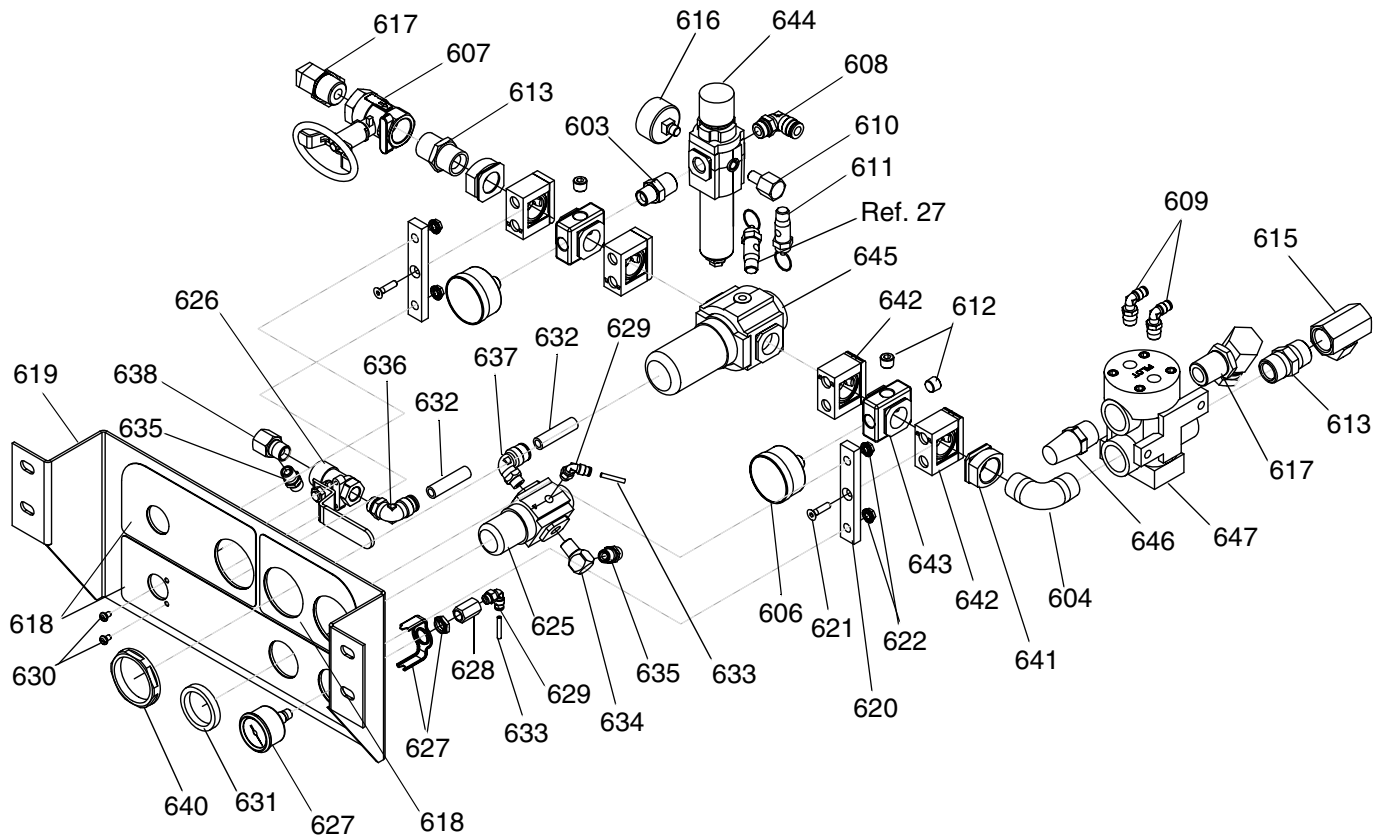

FIG. 5
3. Remove four nuts (17) from front of air controls (18). See page 36.
5. Remove two nuts (630) from front of air control bracket (619). See FIG. 5 on page 18.
6. Disconnect air line (632) running to ball valve assembly (626).
5. Remove regulator nut (631), and disconnect air lines (632, 633) running to regulator (625). See FIG. 5 on page 18.